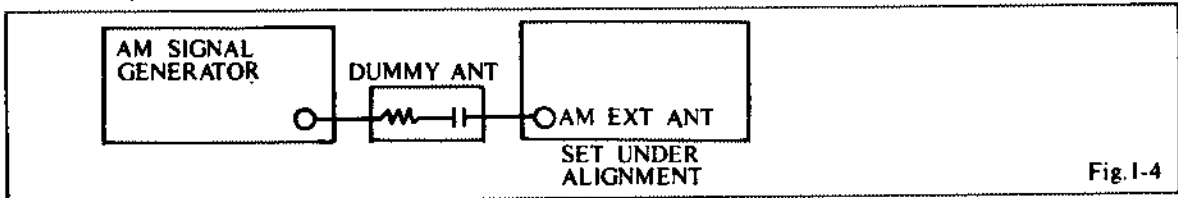

Fig. 1-4
- a. Set up the test equipment as Fig. 1-4.